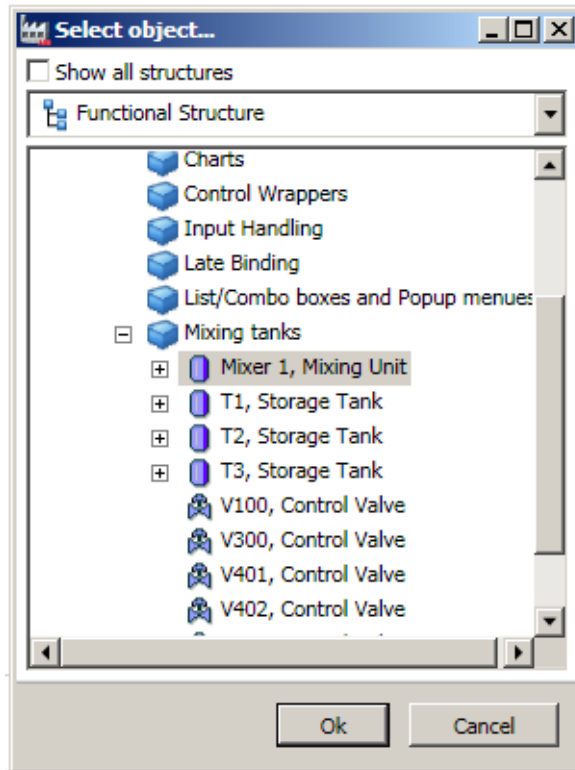

Figure 53. Group Manager - Select Object Dialog
4. In the Select object... dialog (refer to Figure 53), select the required structure from the drop-down list and select the object to which the alarm groups is to be configured and click **Ok**.